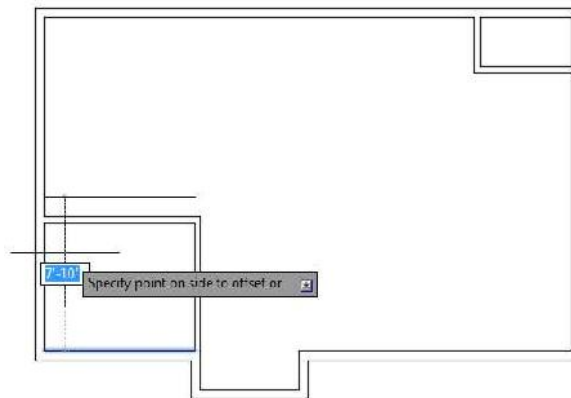

FIGURE 4.29: Selecting the line to offset
3. Click the lower outside line indicated in Figure 4.29 and then click in a blank area above the line you selected.